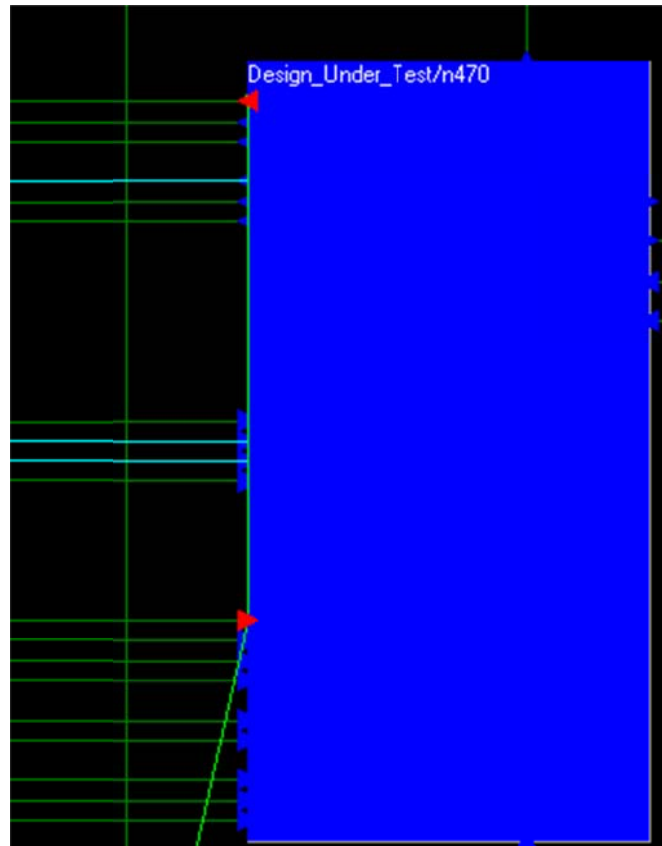

Figure 24
d) After you locate the ports you will route, you click to select the output port triangle and then select one input port triangle, as shown in Figure 24. You must follow this sequence. If you select input port first, manual routing will fail. Please note that manual routing can only work between two ports (one input port and one output port) every time. If there are several input ports, you need to do this multiple times to connect all input ports.